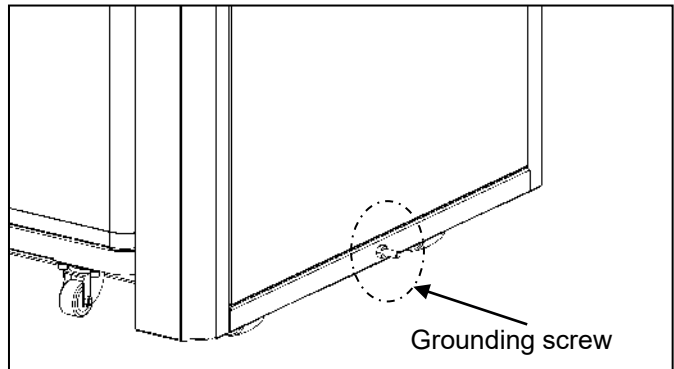

Fig. 10
- Locate the **grounding screw** on the machine's **right side** (see **Fig. 10**).